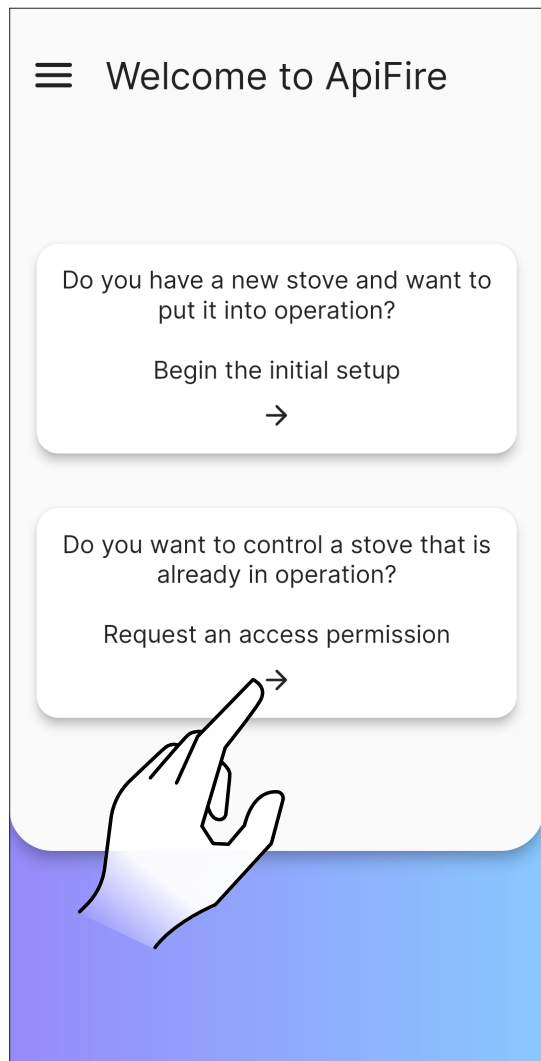

Fig. 27
- select “Do you want to control a stove that is already in operation?” (Fig. 27)